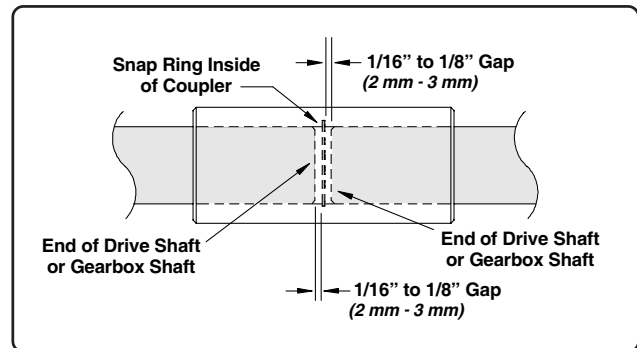

Fig. 19
4. When the drive shafts have been connected, there should be an 1/16" to 1/8" (2 mm to 3 mm) space in between the end of the shafts and the snap ring that is inside the coupler. If necessary, loosen the bearing locking collars on the drive shafts and position accordingly (See Fig. 19).